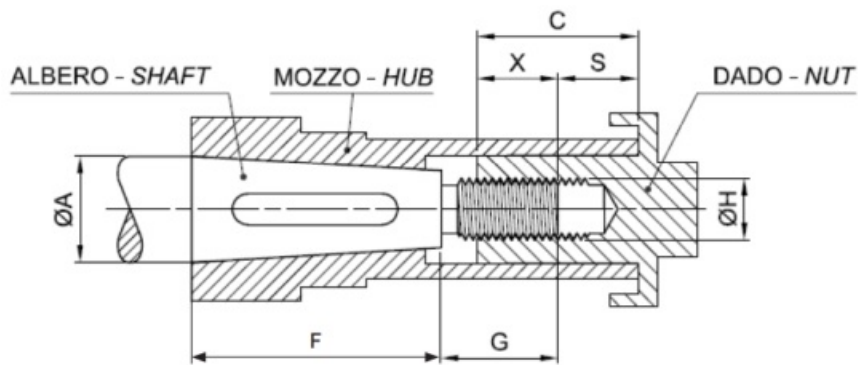

fig. 1
c. Check the screwing length of the nut (refer to fig.1 where the screwing length is indicated with "X"). To check this we suggest inserting the propeller onto the conical end of the propeller shaft and pushing it against the cone of the shaft (carry out this operation without inserting the key). When the propeller is against the shaft cone, measure the distance between the end of the shaft and the end of the hub (indicated in the figure with "S"). The length "X" is obtained by subtracting the length "S" from the length of the nut "C". The length "X" must be less than "G" and it is recommended that "X" is greater than 0,8 times the thread diameter indicated with "ØH".